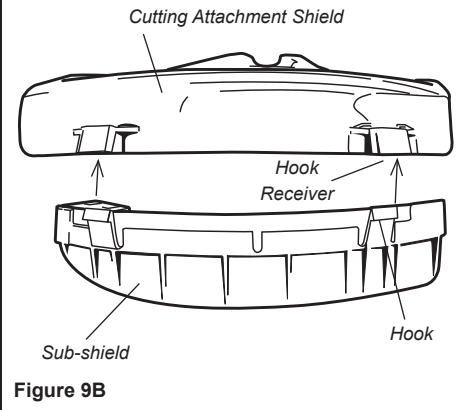

Figure 9B
1. Attach the shield extension to the cutting attachment shield. See figure 9B.